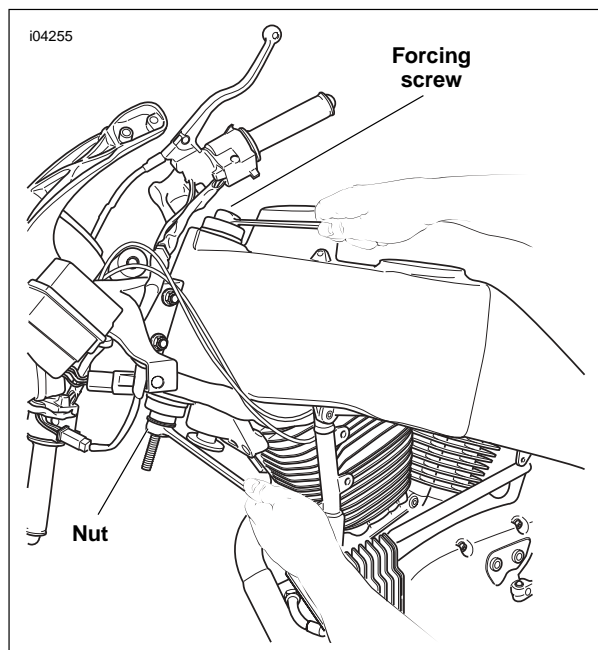

Figure 2-82. Install Bearings
6. See Figure 2-82. Hold the forcing screw while tightening the nut to draw the bearing into the steering head. Continue tightening until the bearing is fully seated.